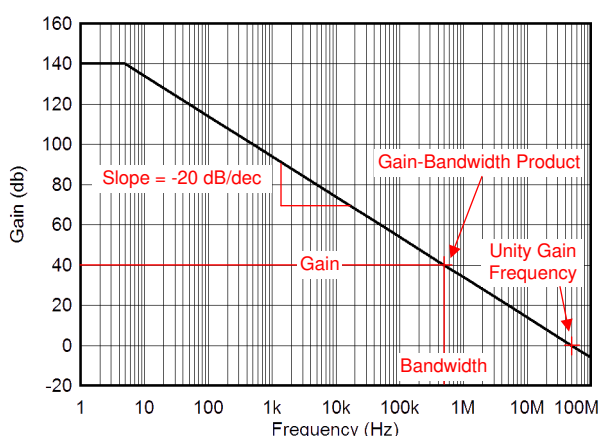

Figure 7-13. Gain-Bandwidth Product and Unity Gain Frequency
The parameters of an amplifier that best describe the small signal dynamic behavior are the gain-bandwidth product (GBP), unity gain frequency (UGF), and phase margin (PM). The GBP is a useful parameter to determine the bandwidth of an application in closed-loop configurations. Equation 4 can be used to approximate the closed loop bandwidth for the OPAx828. Typically, the GBP is a specified parameter with the amplifier configured in a noninverting gain of 100 (40 dB). The GBP of an amplifier is generally assumed to be constant over frequency but in some higher speed amplifiers, constant over frequency is not the case. The OPAx828 have a constant GBP all the way to the UGF; thus, the OPAx828 open-loop gain has a constant –20 dB/decade slope (–6 dB/octave). The UGF is defined as the frequency at which the gain of the amplifier crosses 1 V/V (0 dB). Figure 7-13 illustrates the concept of GBP and UGF. The OPAx828 have both a GBP and UGF of 45 MHz.